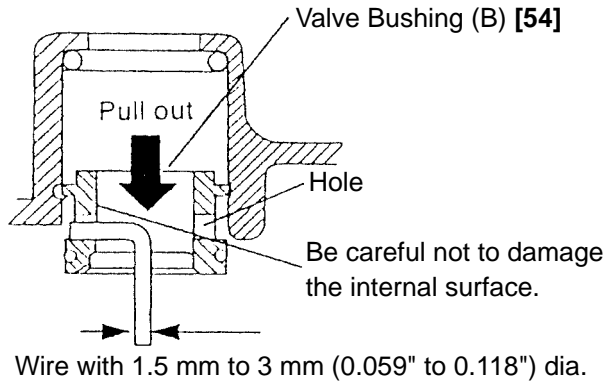

Fig. 17
- Be careful not to damage Valve Piston (B) [57], Valve Bushings (A) [63] and (B) [54], etc.
- Do not pull out the end of Plunger (A) [61] with the pliers.
- 3) To take out Valve Bushing (B) [54], put a 1.5 to 3 mm (0.059" to 0.118") dia. wire with its end hooked into the hole in the bushing and pull it out while being careful not to damage the internal surface of Valve Bushing (B) [54], as shown in Fig. 17.